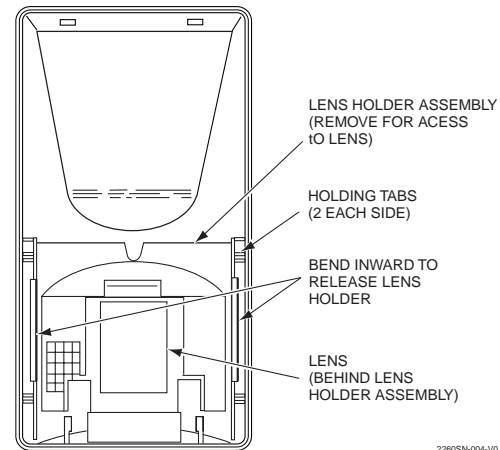

Figure 4. ACCESSING THE LENS
2. Remove the lens holder in the front cover by squeezing the two outer sides of the holder together, releasing it from the side clips (see Figure 4). Then pull the holder out, exposing the lens.